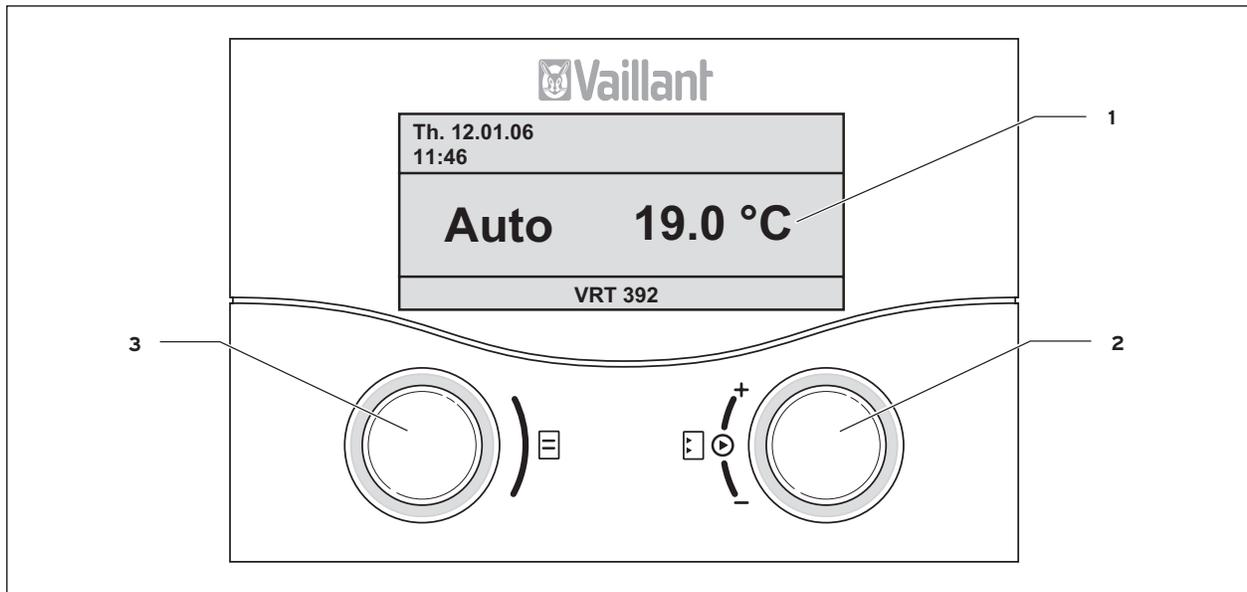

Fig. 4.1 Overview operating and display front
Fig. 4.1 shows the default display. It provides the following information:
- default display (Fig. 4.1)
The two dials (Fig. 4.1 Items 2 and 3) function according to the Vaillant principle "Turn and Click".